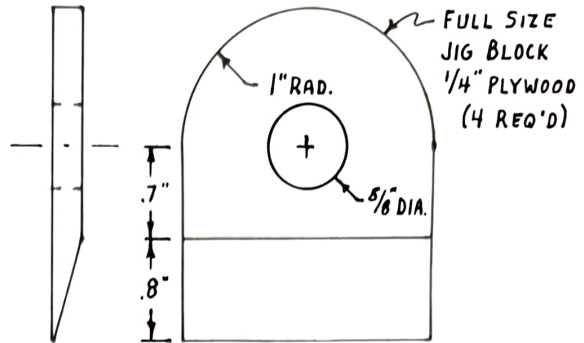

FIG. 7
- 1) Cut four 1/4 in. thick jig blocks (Fig.7) from 1/4 in. plywood. Bevel the blocks as shown 0.8 in. to a sharp edge. Drill 5/8 in. dia. holes through all 4 pieces to fit nicely on the steel tube. Slip 2 jig blocks on each tube, bevels to the outside, and bolt the tubes into place between the aluminum angles on the fuselage.